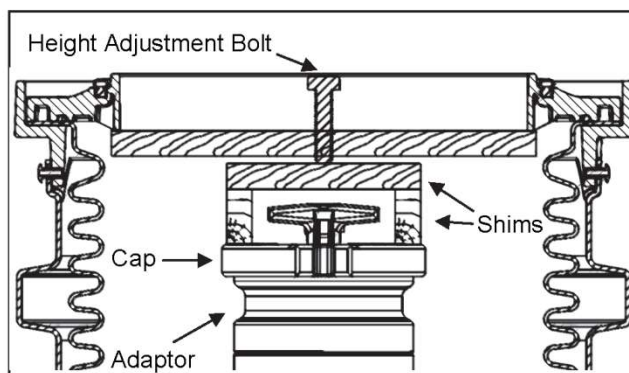
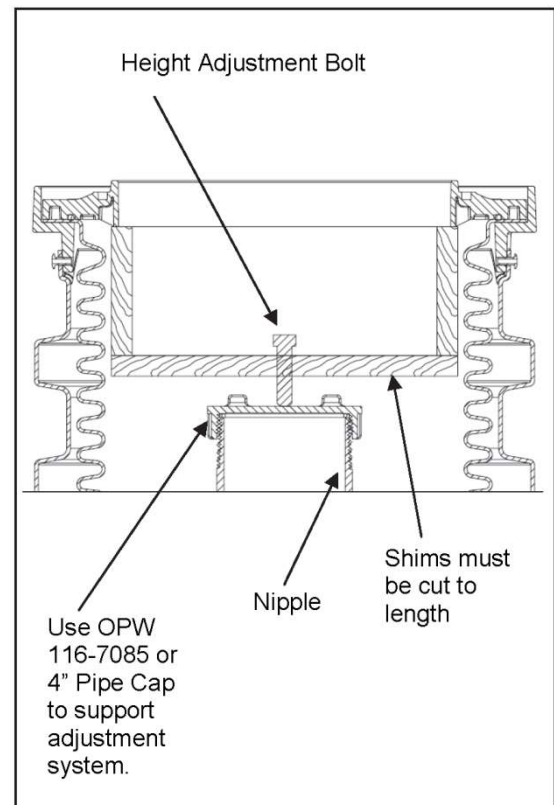

Figure 4
Figure 8
Step 6: (See Figures 4 & 8)
If necessary, the height of the spill container can be adjusted by $\pm 1.5"$ (3.8cm). If it is necessary to increase height, install adjusting system (sold separately for 5 gallon models, part number H12267) beneath tabs on mounting ring. See Figure 4 for standard cover models and Figure 8 for sealable cover models. Add shims as needed and adjust with screw (shims must be cut to size for sealable cover models).